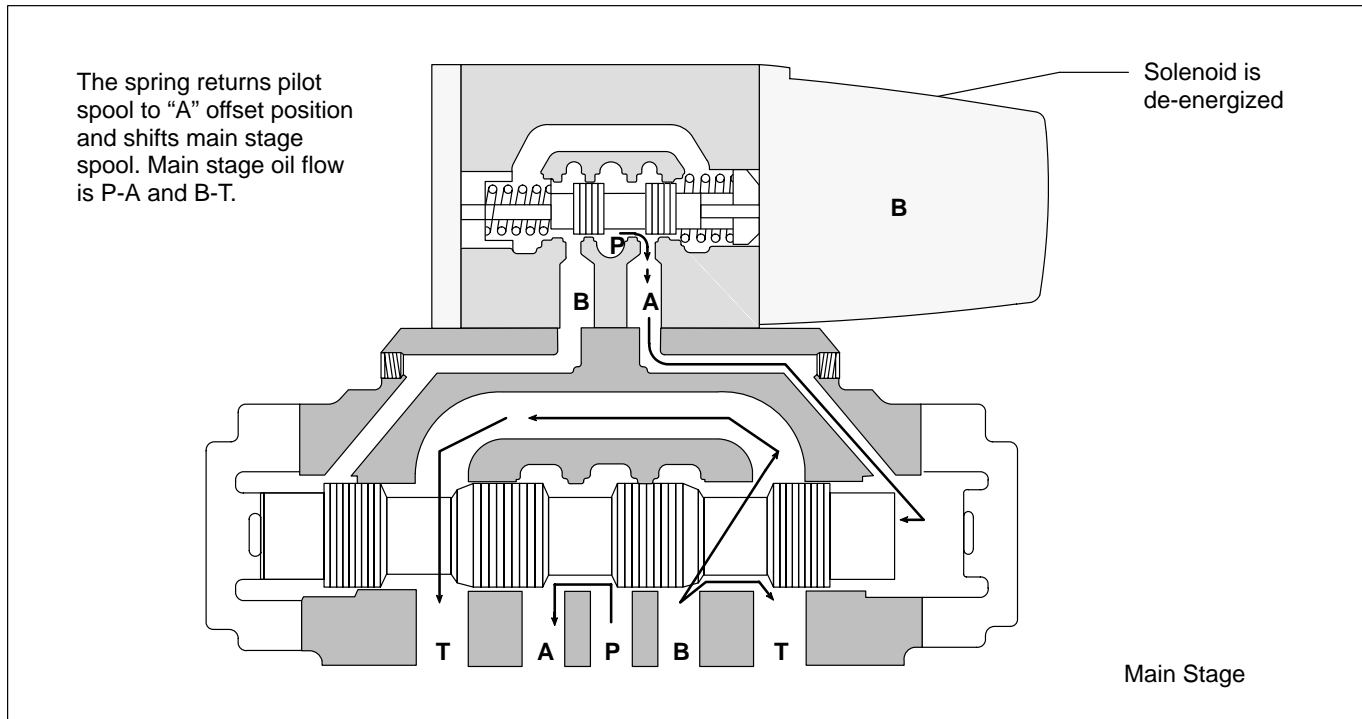

Figure 6. Spring Offset "A" Model
3. Spring Offset: Single stage spring offset models use one spring to return the spool to an offset position. In two-stage models, the spring and washer is removed from the main stage and offset action is obtained from the pilot valve. Offset pilots have a solenoid removed from the spring end of the valve. Spring offset pilots control the main stage when the solenoid is de-energized, through spring action, so long as pilot pressure is available. Spring offset valves have the letter "A" stamped into the nameplate (i.e. DG5S4-062A-**-51). Figure 6 illustrates an offset two-stage valve.